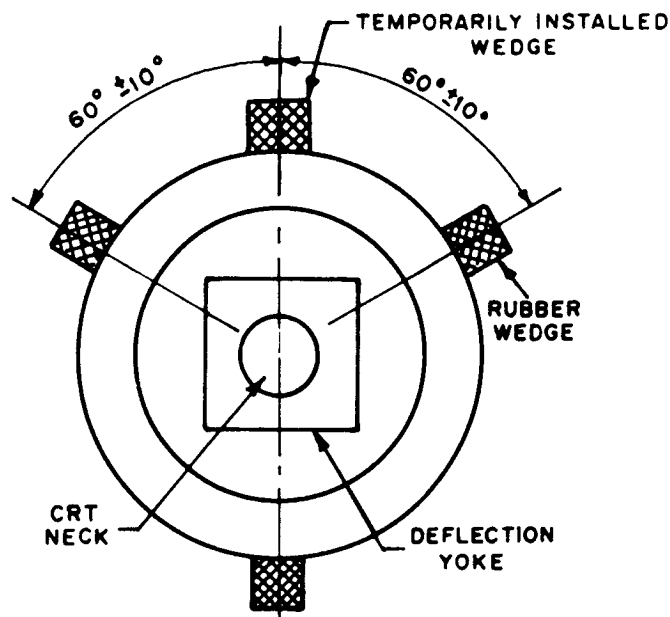

FIG. 7
3. Insert three rubber wedges to the position as shown in Fig. 7
- 4) The position of each rubber wedge is shown in Fig. 7.